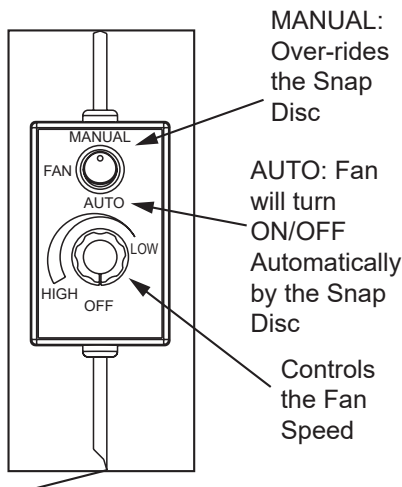

Figure 14.2
2. The blower is equipped with a speed control. Adjust the fan speed by turning the speed control clockwise to "Low" or counterclockwise to "High" (**Figure 14.2**).